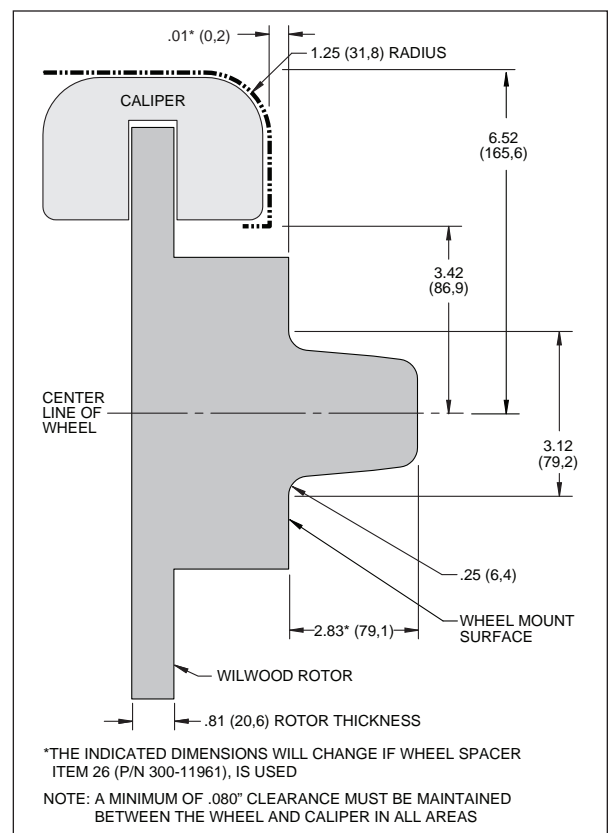

Figure 2. Wheel Clearance Diagram
- Review the Wheel Clearance Diagram (Figure 2, page 3) to verify that there is adequate clearance with the wheels you will be using with the installation.
- Verify wheel clearance utilizing Figure 2.
- Verify the new hub stud pattern in this kit matches the lug pattern of the vehicles wheels. It is important that the center hole clearance be 3.13" or larger to clear hub snout in the kit, Figure 2.
- WARNING:** The wheel contact surfaces must seat completely on the face of the hub. If any contact surfaces overhang the outside diameter of the hub face, a 6.60" diameter x .20" thick steel spacer (Wilwood P/N 300-11961, item 26) MUST be used between the wheel and the hub.